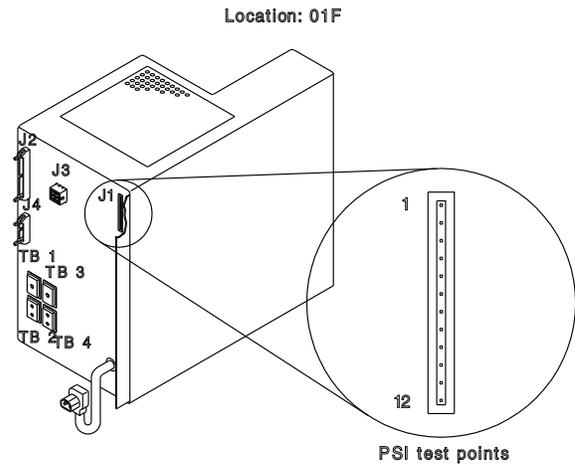

Figure 4-71. PS1
- c. Using Table 4-11, measure the voltages on the voltage test points of PS1 (refer to Figure 4-71). If the voltages are incorrect, exchange PS1.